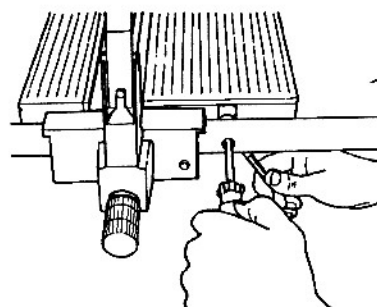

Fig. C-15
23. When aligned, use a medium Phillips screwdriver and a 7/16" wrench to tighten each nut only enough to allow it to move with firm pressure, as demonstrated in Fig. C-15.